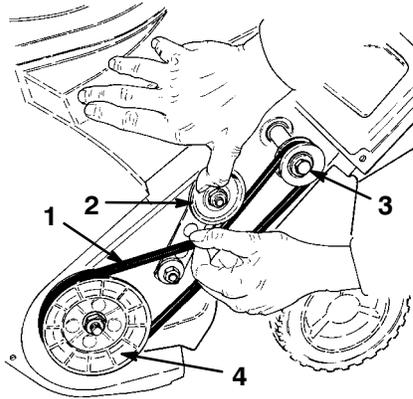

Figure 16
- Pull the idler pulley up slightly while pulling out the drive belt. Allow the pulley to gradually release when it can move past the belt (Fig. 16).
- Rotate the rotor and work the drive belt off the rotor pulley. The belt should slide easily off the drive pulley (Fig. 16).
- Loop the new drive belt around the drive pulley. While holding the drive belt, slip it onto the rotor pulley and rotate the rotor until the drive belt is completely on the rotor pulley (Fig. 16).